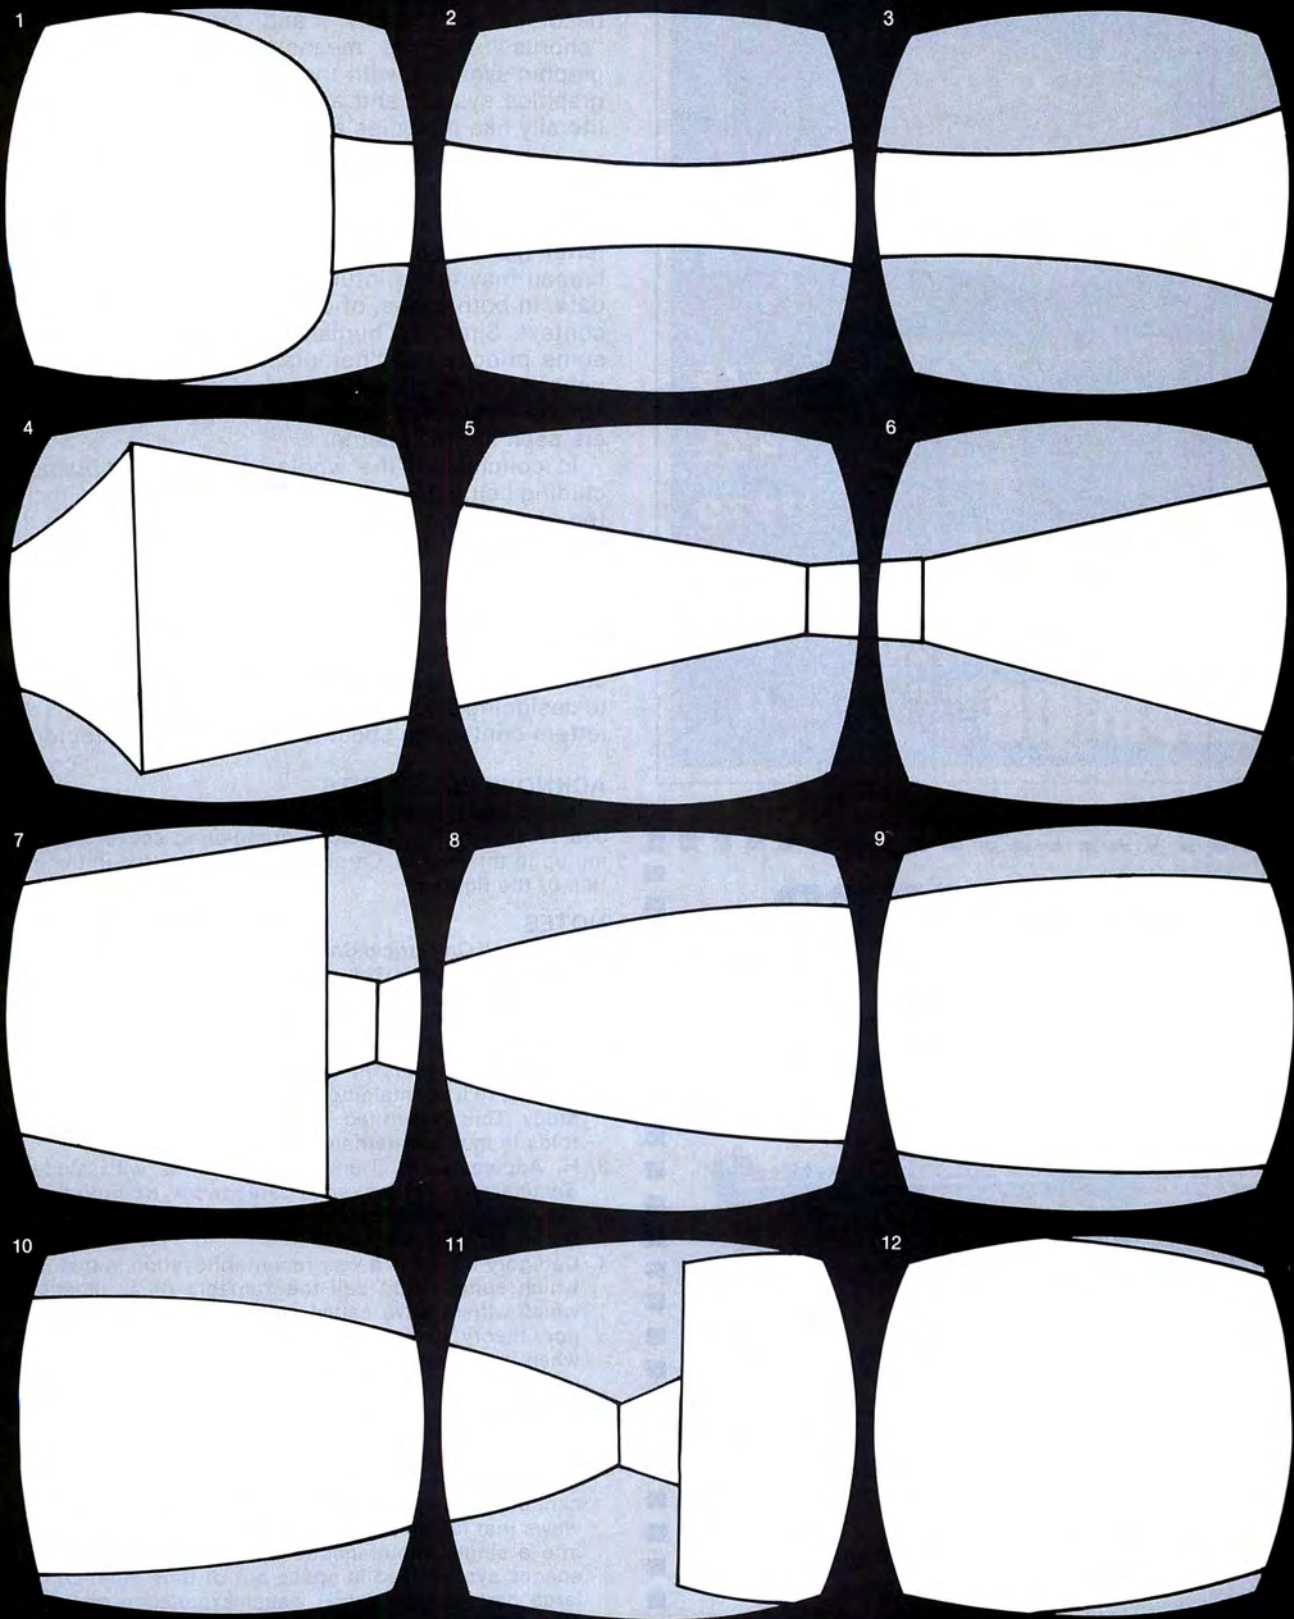

Figure 4. What letter(s) could this be?
For example, one way to develop strategies for adaptive optical character-recognition would be to give human beings an opportunity to make believe that they are *point-humans* (see Figure 4). A microcomputer video-graphics system of sufficiently great memory and resolution could provide a visual display of a view in a letter-space. The viewpoint of the view could be under manual and pedal control of the human being, whose job or game it would be to deduce from consecutive displays what letter-space the microcomputer has previously chosen, probably by a "random" process. The "game" is to recognize the letter-space within a pre-defined time limit. This is a simple "solitaire" example of a whole new family of games called "*point-human* video-games." Such games can have much in common with familiar games, such as guessing games, pocket billiards, chess, lunar-lander, etc. Elaborate examples could involve contests between (1) two humans with software ray-guns, constructible and destructible barriers, scoring penalties for bad jumps or guesses, etc., or (2) a human and a software-simulated *point-human*, or (3) two software *point-humans*.